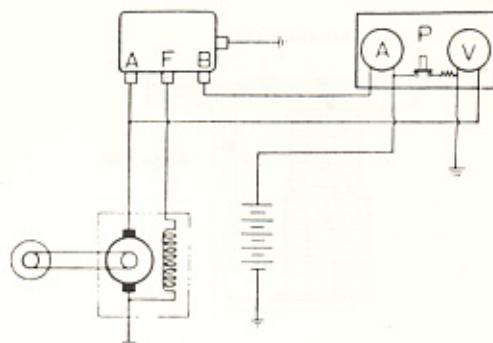

Fig. 7-43 Current Limiter Test
3. Current limit test. Connect the regulator as shown in figure 7-43. Close the point "P" at 3,000 rpm of the generator, then check the reading on the tester. If the tester shows 19 ~ 23 amperes the current limiter is satisfactory. If adjustment is necessary, bend the current limiter adjusting arm to obtain proper current.